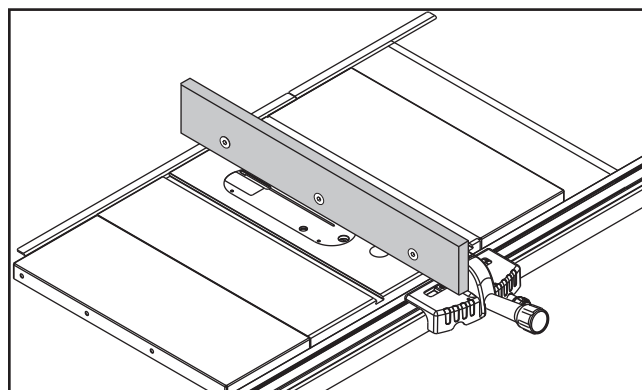

Figure 69. Example auxiliary fence attached to included fence.
7. Insert cap screws through holes in auxiliary fence board (see **Figure 69**).
8. Align cap screw threads with hex nuts and tighten (see **Figure 69**).